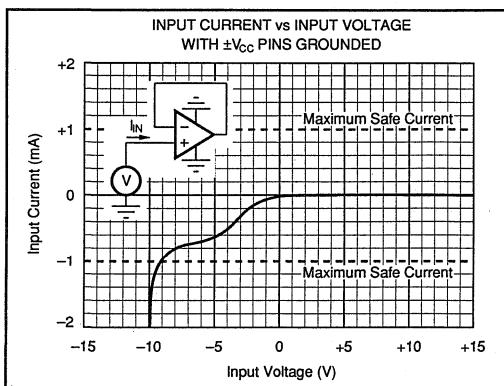

FIGURE 2. Input Current vs Input Voltage with $\pm V_{CC}$ Pins Grounded.
NOTES: (1) Packages must be derated based on $\theta_{JC} = 30^\circ\text{C/W}$ or $\theta_{JA} = 120^\circ\text{C/W}$. (2) For supply voltages less than ±18VDC the absolute maximum input voltage is equal to $18\text{V} > V_{IN} > -V_{CC} - 8\text{V}$. See Figure 2. (3) Short circuit may be to power supply common only. Rating applies to +25°C ambient. Observe dissipation limit and T_J .
Unlike BIFET amplifiers, the *Difet* OPA404 requires input current limiting resistors only if its input voltage is greater than 8 volts more negative than $-V_{CC}$. A 10kΩ series resistor will limit the input current to a safe value with up to $\pm 15V$ input levels even if both supply voltages are lost. (See Figure 2 and Absolute Maximum Ratings).